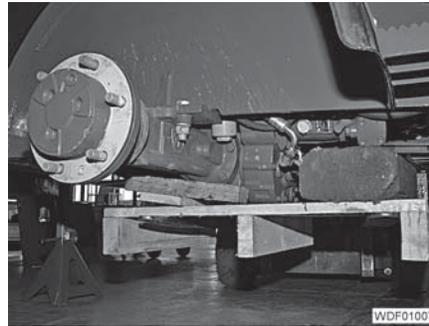

Fig. 254 Rear axle support
- Provide a suitable support for the rear axle (e.g. pallet and lifting carriage) (Fig. 254).